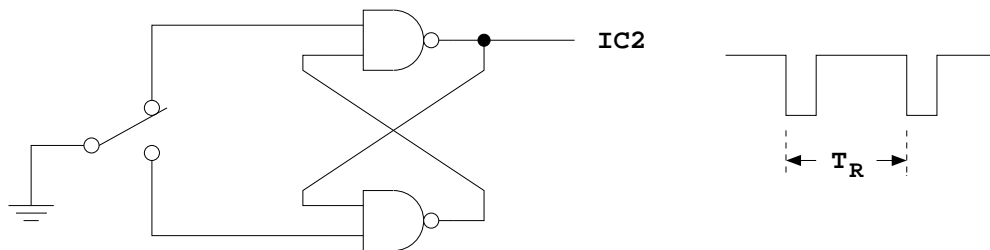

Figure 1. Circuit to measure speed of button pushing
The right part of Figure 1 is what the signal to IC2 will look like if you push the pushbutton twice.
4. Add to your program code to measure the number of timer ticks T_R between the two falling edges of the signal in Figure 1. Set the prescaler so you unambiguously measure time difference of at least 250 ms.